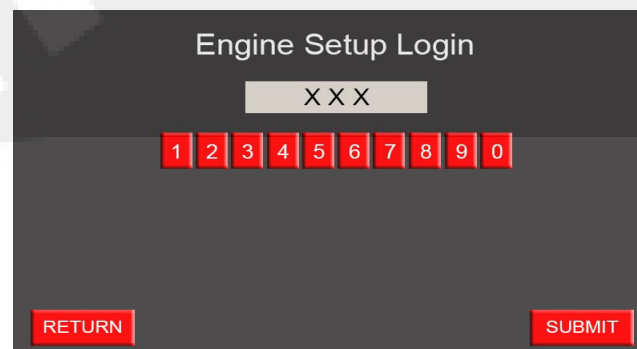

Figure 4-6 Engine Setup Login Screen (Typical)
2. As shown in Figure 4-6, press the soft number keys to enter password "806" in the Engine Setup Login screen.